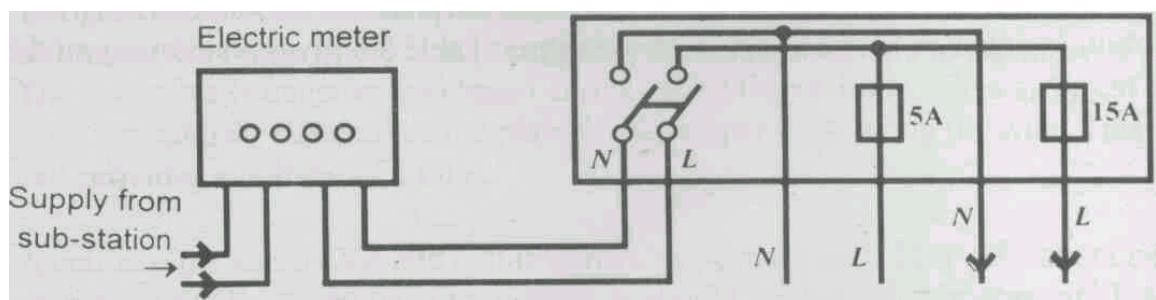

Fig. 5.18: Supply of electricity to the laboratory
called the **neutral (N)** wire (Fig.5.18). The electric supply being A C, the live wire is alternately at positive and negative potential of 220V with respect to the neutral wire. The potential of the neutral wire is zero because it is earthed at the local sub-station.